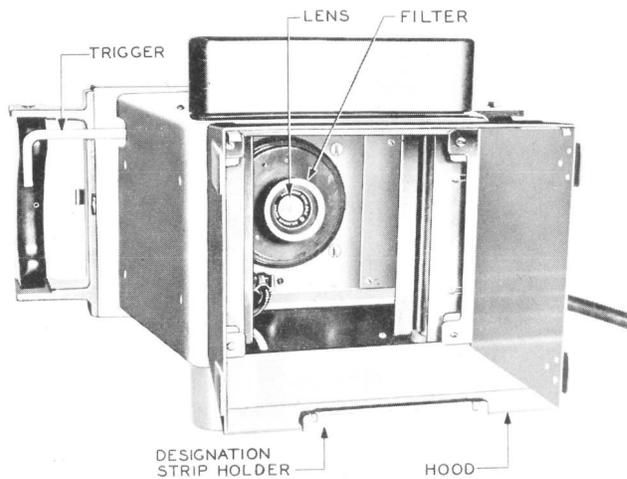

Fig. 2 – Camera Showing Hood and Designation Strip Holder (filter mounted over lens)
1.04 The KS-14593 L2 message register camera, shown in Fig. 2, has outside dimensions approximately 13 by 16 by 17 inches and weighs about 18 pounds. This specially designed camera is used for photographing 2000 central office message registers, in blocks of 25, on a roll of sensitized paper approximately 3-5/8 inches wide. The roll of paper is developed and stabilized in the telephone office, using the KS-14778 photo processor, and provides direct readings of the message registers photographed. The camera hood, containing the flash lamps for illuminating the message registers, is placed over the block of 25 registers being photographed. An exposure counter on the outside of the camera shows the number of exposures made on the paper in the camera. Normally, 80 exposures are
4.03 Prepare a designation strip bearing pertinent information including central office name and date of exposure. The designation strip should be 4 inches long and 1/4 inch wide and should preferably be of a light brown color with the characters applied in India or printer's ink. The characters should be at least 3/16 inch high and the 3/8-inch portion at each end of the strip should be left blank since the designation strip holder lugs cover these portions. Slip the designation strip in position in the holder at the lower edge of the camera hood shown in Fig. 2. The lettering on the strip should face the camera lens, and the bottom edge of the strip should be toward the bottom of the hood.